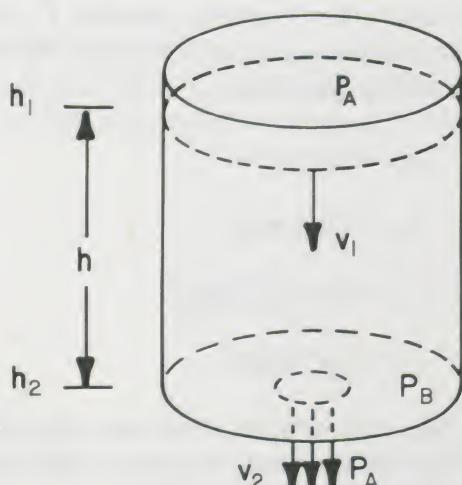
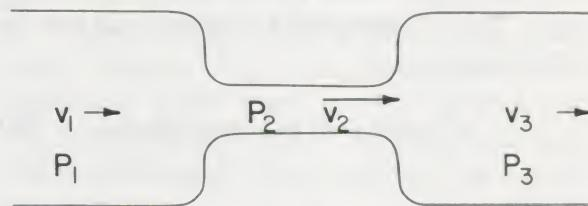

Figure 34.
Figure 35.
Figure 34 shows a tank of water with an outlet at the bottom. Water leaves the bottom at a speed  $v_2$  and at atmospheric pressure  $P_A$ . As you know, the greater the depth of the water, the faster it flows from the outlet. We seek first a mathematical expression for the dependence of the water velocity on its depth. Such an expression can be obtained by applying the principle of conservation of mechanical energy, but to do so we must make a number of simplifying assumptions. For example, we shall assume that there is no friction and that the flow is perfectly smooth (*laminar*).
Returning to the container of Figure 34, there is another way of looking at the situation. Certainly, it is the pressure which causes the water to be pushed out of the bottom. The surface of the water is at atmospheric pressure  $P_A$ . The difference between this and the pressure in the water at the bottom of the container  $P_B$  is
liquid, nor does  $P_2$  have to be atmospheric pressure. Although Equation (19) was derived for the situation shown in Figure 34, it is also true for the situation shown in Figure 35, where three different regions are involved.